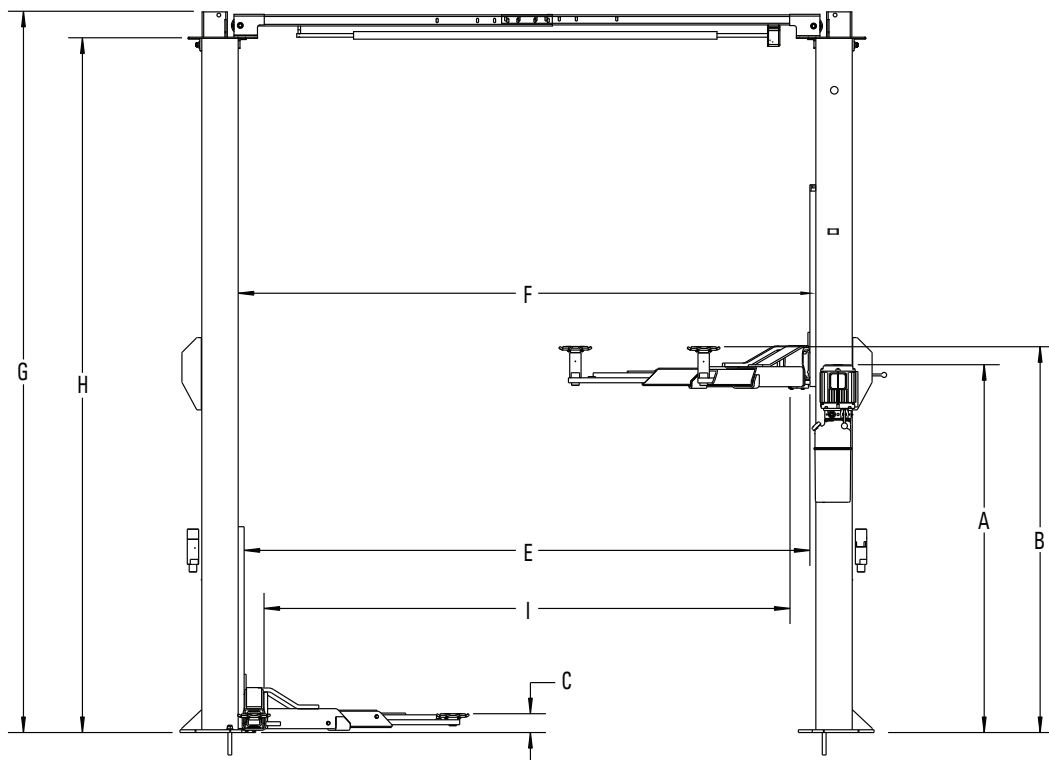
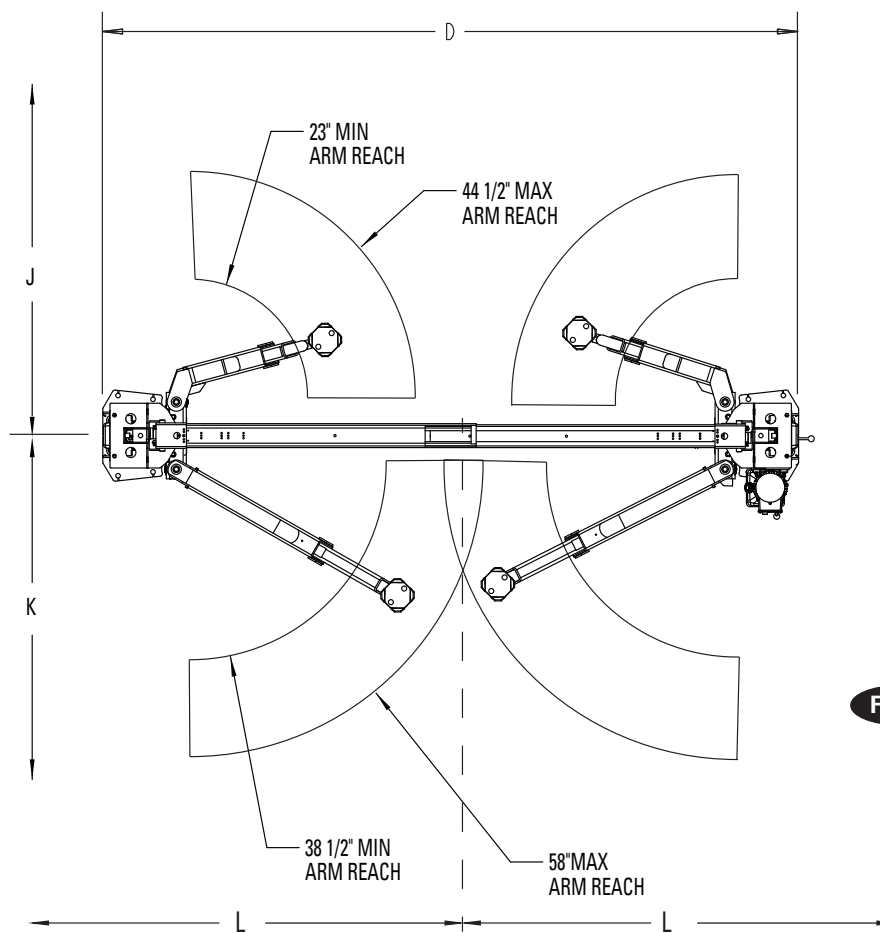

Fig. 1a
Fig. 1b
1. Lift Location: Use architects plan when available to locate lift. Fig. 1a & Fig. 1b shows dimensions of a typical bay layout.
8. Lift Setting: Position columns in bay using dimensions shown in Fig. 1a & Fig. 1b. Place column with power unit mounting bracket on vehicle passenger side of lift. Both column base plate backs must be square on center line of lift. Notches are cut into each base plate to indicate center line of lift. Use appropriate equipment to raise carriage to first latch position. Be sure locking latch is securely engaged.